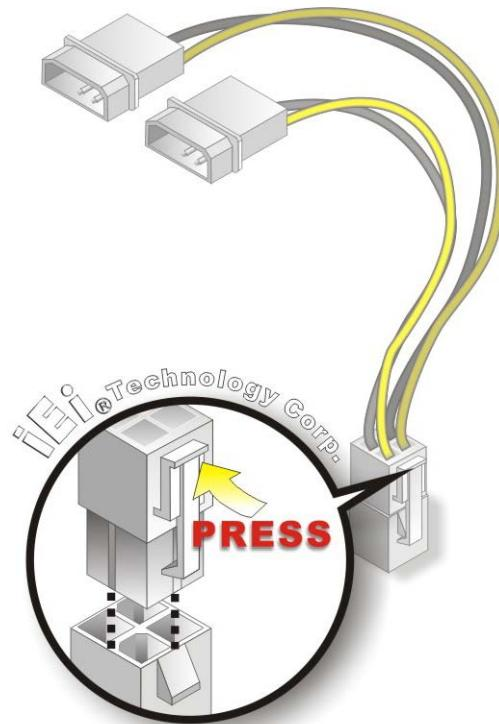

Figure 4-13: Power Cable to Motherboard Connection
Step 6: Connect the Power Cable to the Motherboard. Connect the 4-pin (2x2) Molex type power cable connector to the AT/ATX power connector on the motherboard. See Figure 4-13.